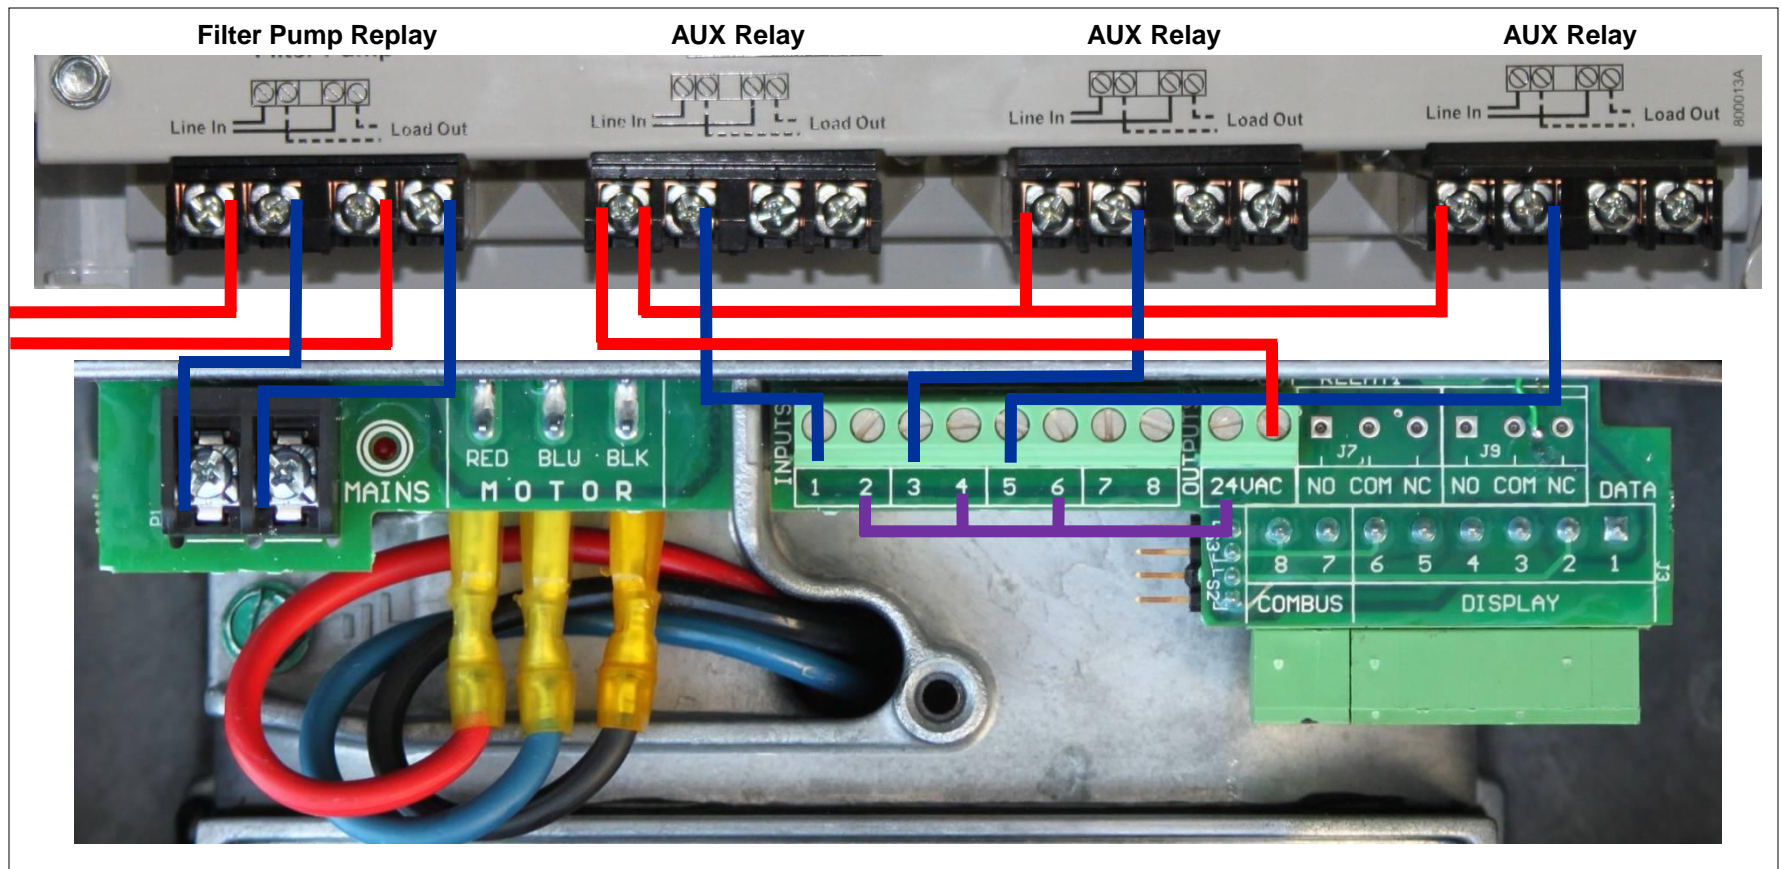

Fig 25
2. **1, 3 and 5** from the pump terminal needs to be wired to the **Load** side of each control relays as shown (fig 25).
3. One side of the 24 VAC connection on the pump terminal needs to be wired with **2, 4 & 6 on the pump terminal** as shown (fig 25).
4. The other **leg** of the 24 VAC connection on the pump terminal needs to be wired to the **line** side of the relays in series as shown (fig 25).